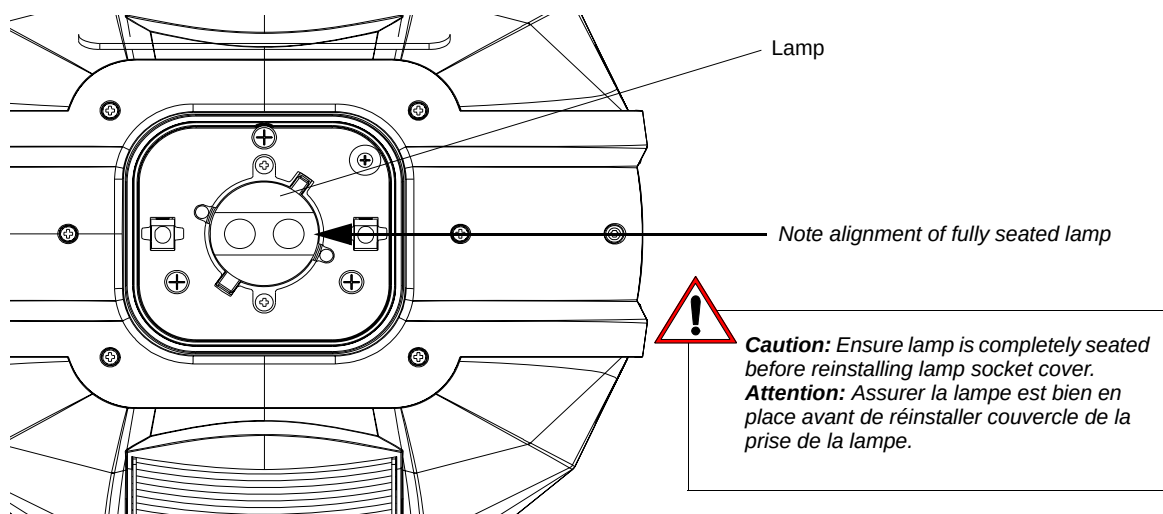

Figure 6: Installed Lamp
Step 8. Turn lamp clockwise to seat lamp into socket. Lamp base should be aligned as illustrated in **Figure 6**.